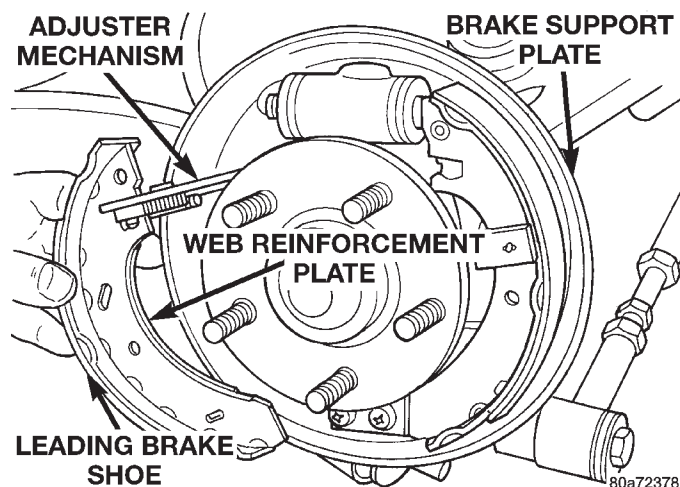

Fig. 67 Leading Brake Shoe And Adjuster Mechanism
(10) Remove the leading brake shoe and the adjuster mechanism as an assembly, (Fig. 67) from the rear brake support plate. **The adjuster mechanism can not be separated from the leading brake shoe until the brake shoe and adjuster mechanism is removed from the support plate.**
NOTE: The leading rear brake shoes on this vehicle are designated for which side of the vehicle they are to be installed on. When correctly installed, the web reinforcement plate on the brake shoes (Fig. 72) will be facing toward the brake support plate (Fig. 67).
NOTE: When installing the leading brake shoe, the web support plate (Fig. 67) must be facing the brake support plate.
(5) Install the leading brake shoe and the adjuster mechanism as an assembly (Fig. 67) on the brake support plate.